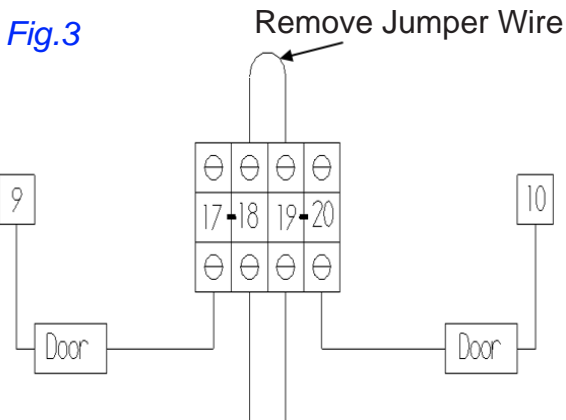

Fig.3
6. Remove the jumper wire between control panel terminal 18 and 19. See Fig.3.